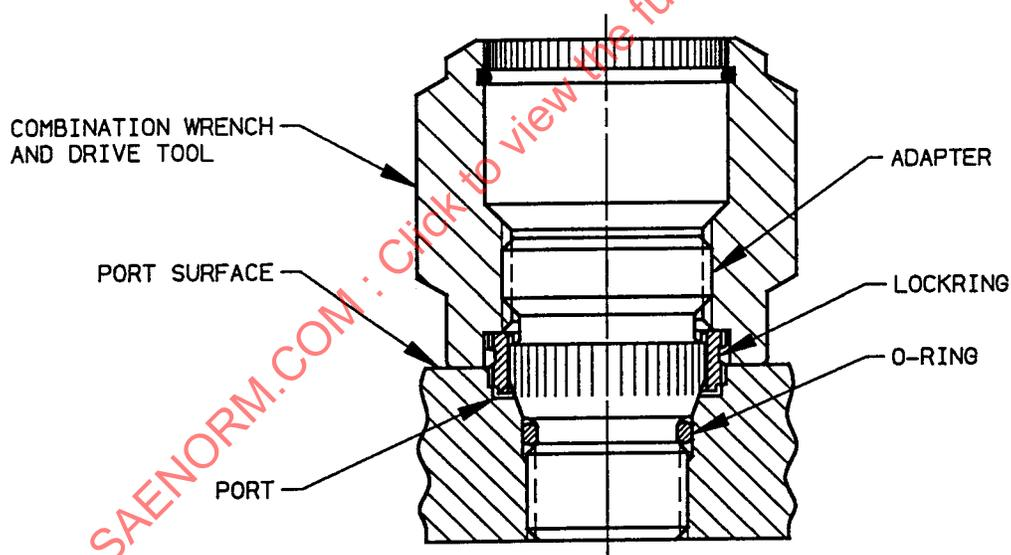

FIGURE 4 - Lockring Installation
- 5.2.5 While the zinc chromate (or other primer) applied per 5.2.4 is still wet, install the locking by rotating the threaded end of the combination wrench and drive tool clockwise onto the adapter assembly until it touches the locking. Using an open end or socket wrench on the tool, turn the tool in a clockwise direction until it bottoms on the port surface as shown in Figure 4. Visually observe that the tool has bottomed.